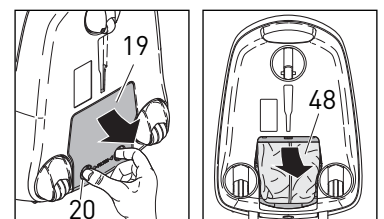
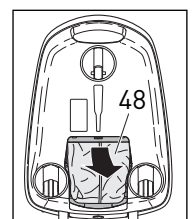
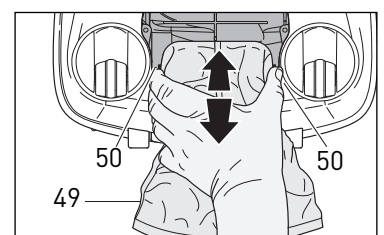

Figure 24
Figure 25
Figure 26
Changing the Exhaust Microfilter - Figures 24, 25 & 26
After 10 to 20 bags have been used, change the exhaust microfilter (49). To remove the exhaust microfilter, press the filter cover release buttons together (20, figure 24) and pull the filter cover (19) off. Pull the material part of the filter out of the machine (49, figure 25). Press the red latches (50, figure 26) located on either side of the filter inward and pull the filter out. Insert the opening of the new filter over the exhaust opening with the red alignment tab at the bottom. When it is aligned, push down until the red latches (50) click shut to hold the filter in place. Tuck the material part of the filter inside the opening. Insert the cover by fitting the tabs on the top side of the cover into the grooves. Push the cover closed, making sure it snaps shut completely.